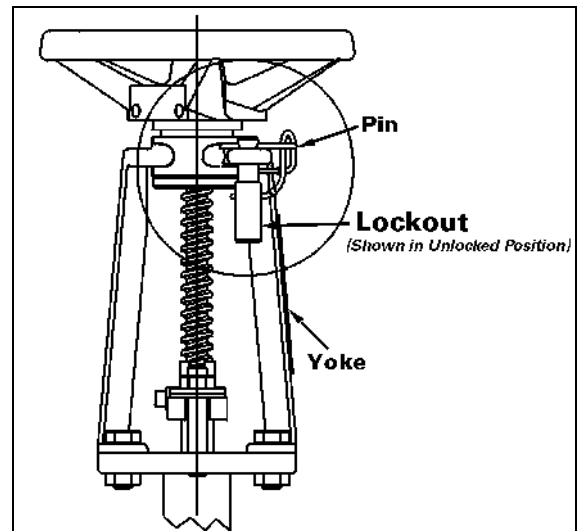

Figure 1—Lockout Device
- The lockout device on knife gate valves with handwheel operators consists of a lockout, a pin and a tether that is attached to the yoke of the valve. See Figure 1.